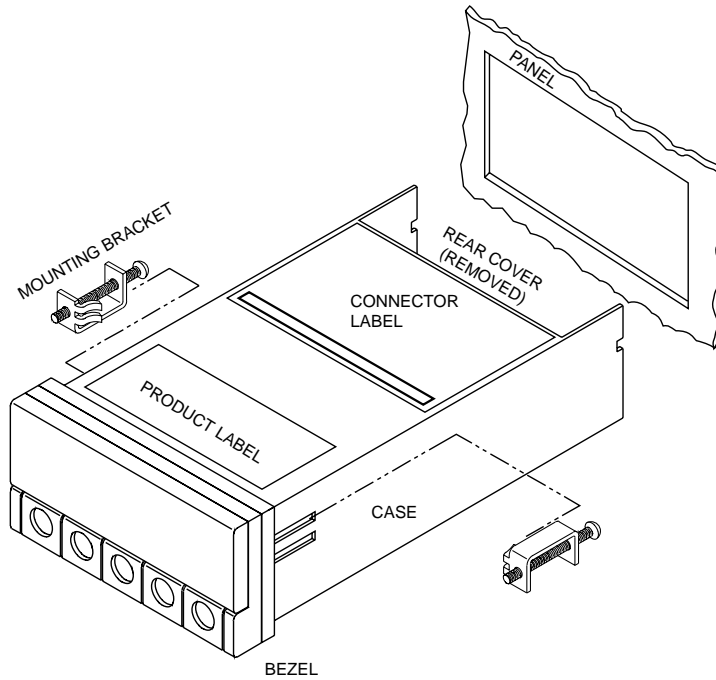
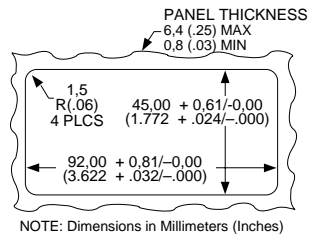

Figure 3-10. Meter - Exploded View
Figure 3-11. Panel Cut-Out
1. Cut a hole in your panel, as shown in Figure 3-10. For specific dimensions refer to Figure 3-11.